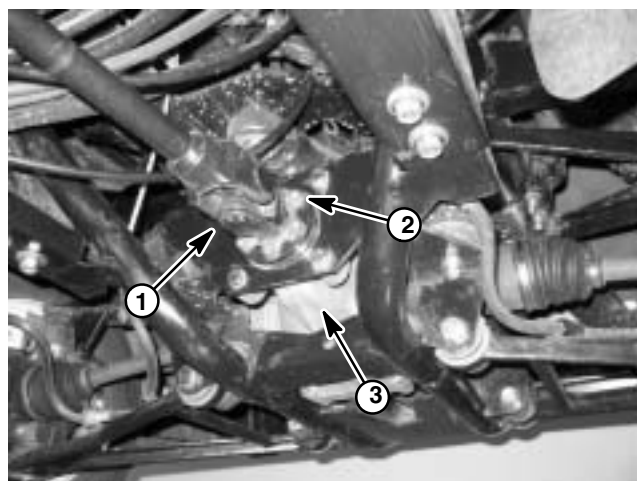

Figure 58
3. Remove six socket head screws securing the differential drive shaft flange yoke to the coupler flange on the front differential (Fig. 58).
2. Position flange yoke to the coupler flange on the front differential. Secure yoke to the flange with six socket head screws (Fig. 58).